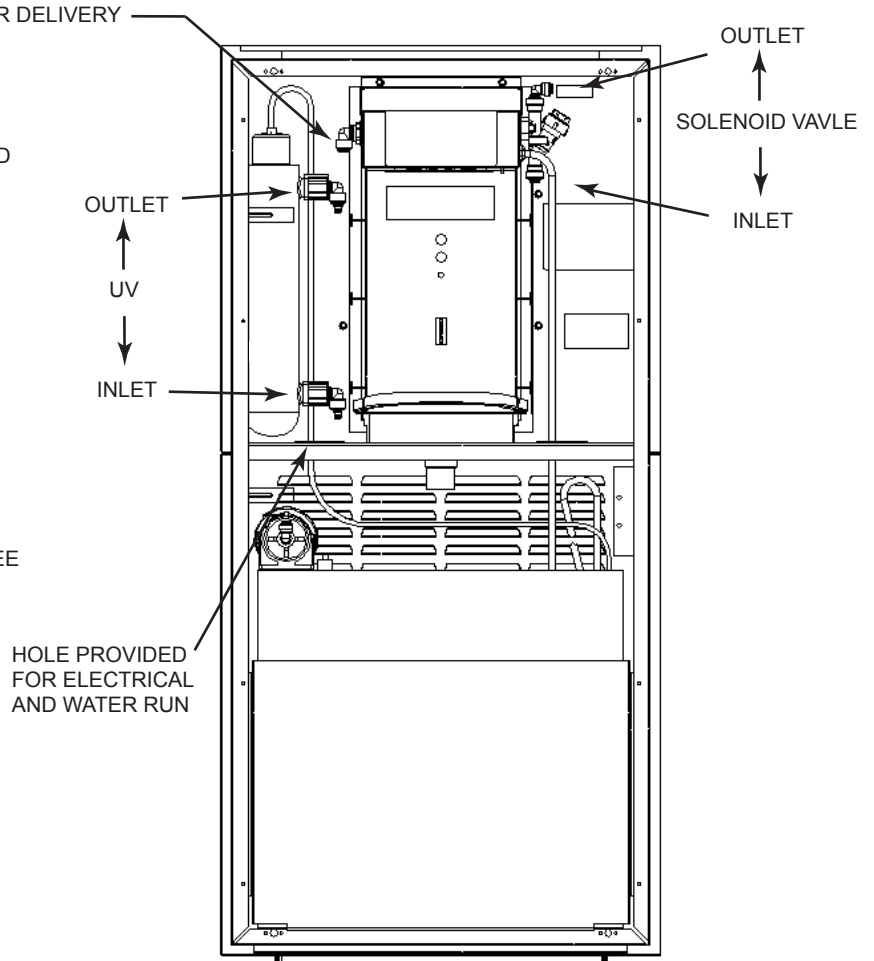

FIG. 9
- (E) RUN UV POWER CORD CONNECTION THROUGH HOLE PROVIDED IN FRAME. CONNECT UV BULB TO POWER SUPPLY CORD AND INSERT BULB INTO UV HOUSING. SEE FIG.9 AND 10 FOR DETAILS.